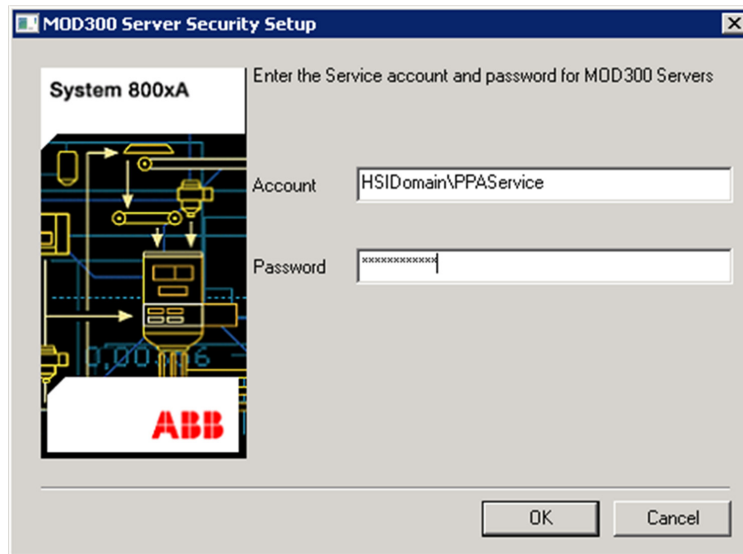

Figure 46. Security Login
4. The MOD 300 Server Security Setup dialog box appears. Enter the domain\user name and password of the 800xA Service User when requested, as shown in Figure 46 (password is case sensitive) and Select OK. Some